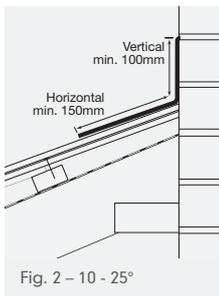

Fig. 2 – 10 - 25°
- 1 Plain tile soakers are laid on top of each consecutive abutment tile with the 90° turndown locating over the head of the tile, the weight of the following courses of tiles keeping the soaker in position against the abutment (Fig. 2).
2 Fold the fitting lengthwise in the centre, then fold its edges around both sides of the chimney, keeping it upright. This creates a continuous material edge that prevents leakages. Shape the material using scissors or a cutter. Cut the sides along the front of the chimney and the water-conducting surface of the roofing material, so there is approximately 3cm left on each side. Connect the two cutting lines where they meet, forming a smooth curve (Fig. 2).